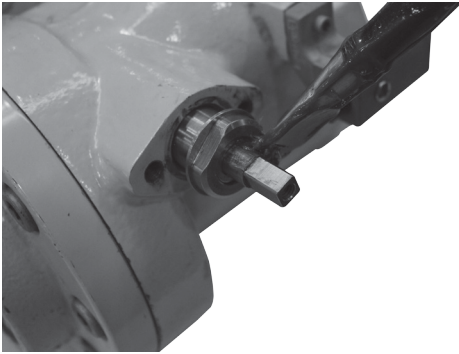

Figure 13. Lubricate parts (step 4)
4. Lubricate the shaft, gland, packing and follower bearing with a liberal amount of Magnalube[®]-G grease, Figure 13.